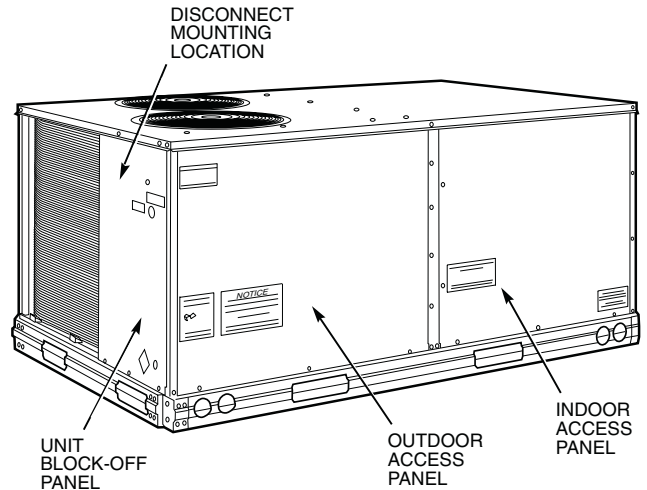

Fig. 1 — Typical Access Panel Location
2. Remove indoor and outdoor access panels. See Fig. 1.